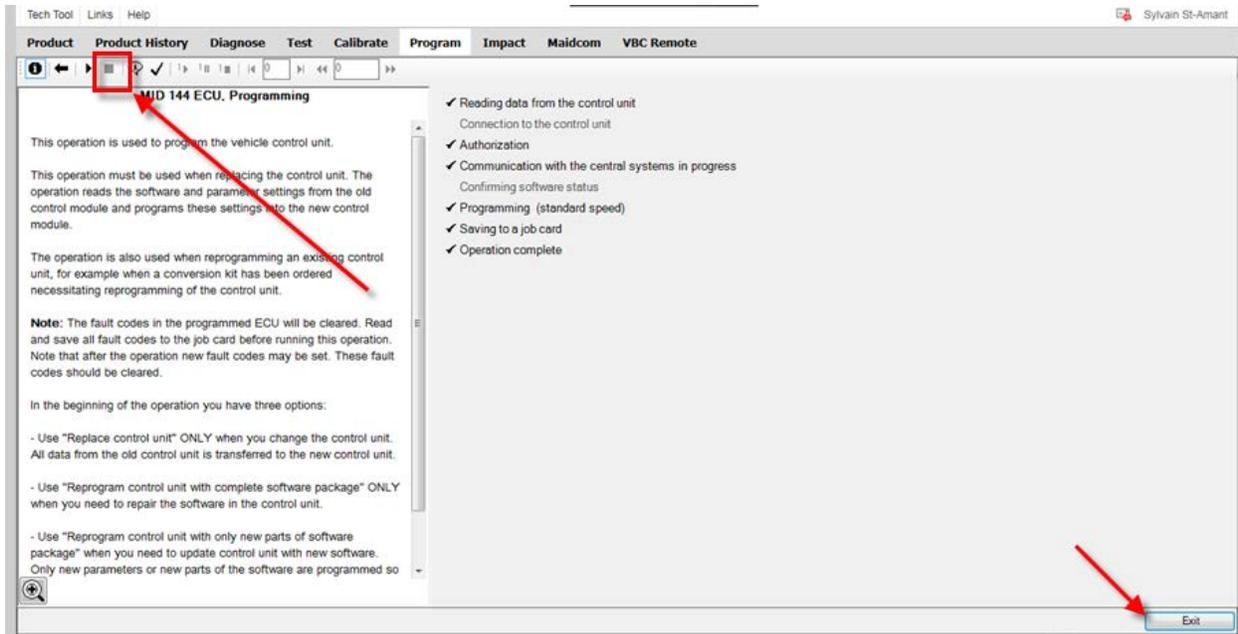

FIGURE 28
- Click  (stop) and then click EXIT (FIGURE 28).